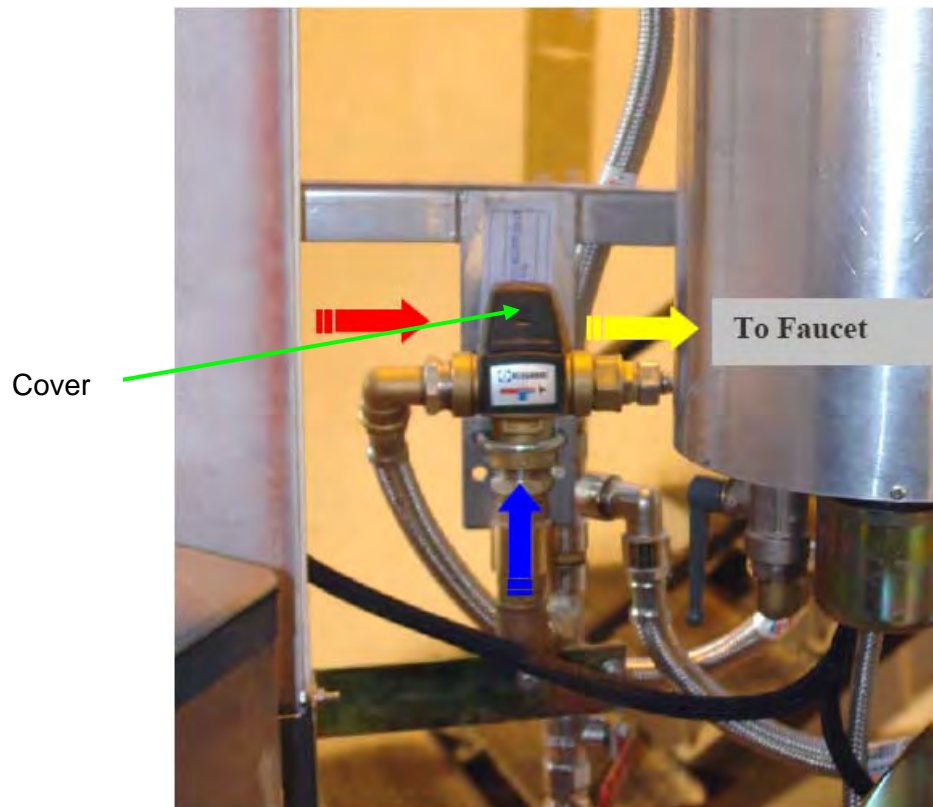

Figure 5: Mixer Valve
- 8.3 Adjust the temperature as required by removing the mixer valve cover and turning the regulator device. Turning to the right decreases the temperature, to the left increases (see Figure 5).